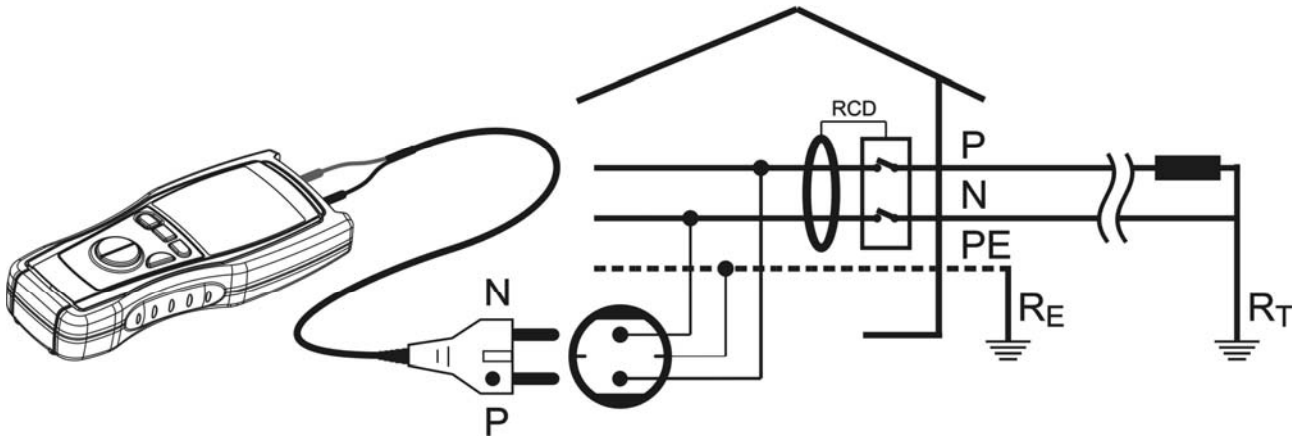

Fig. 12: Connection of the instrument's terminals during Ra \perp test
6. Connect the green cable of the instrument to the protective conductor (earth) and the black cable to the phase conductor (as shown in Fig. 12)
6. Insert the Shuko cable in a power socket (as shown in Fig. 12). The picture represents the connection to power socket